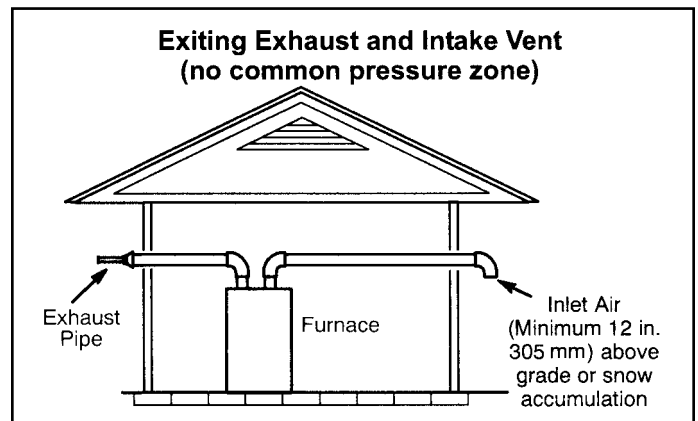
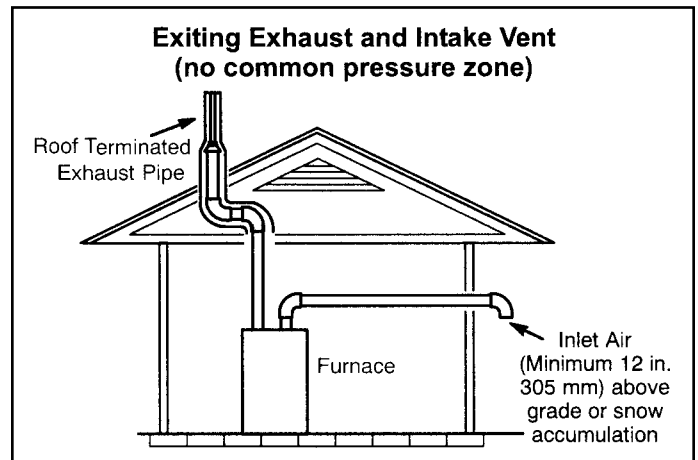

Figure 32.
Figure 33.
- Vent terminations are not required to be in the same pressure zone. You may exit the intake on one side of the structure and the exhaust on another side (Figure 32). You may exit the exhaust out the roof and the intake out the side of the structure (Figure 33).